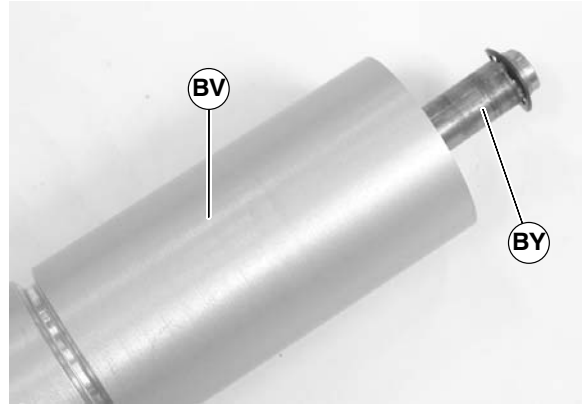

Figure 74
7. Slide the shaft assembly (BY of Figure 74) out of the pulley (BV).